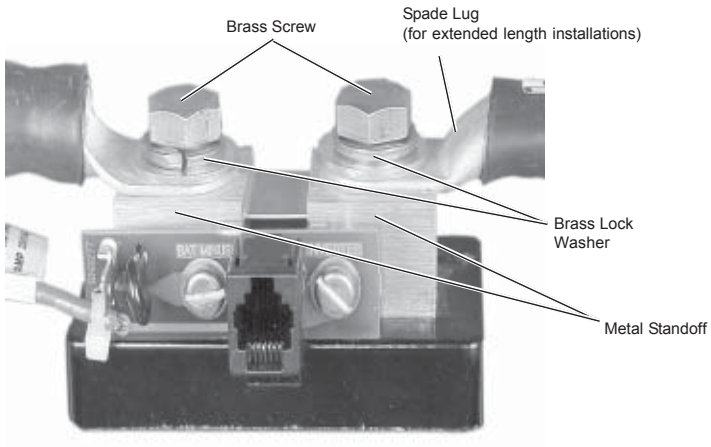

Figure 2-8
- Install the shunt circuit board and supplied hardware exactly as shown in Figure 2-8.